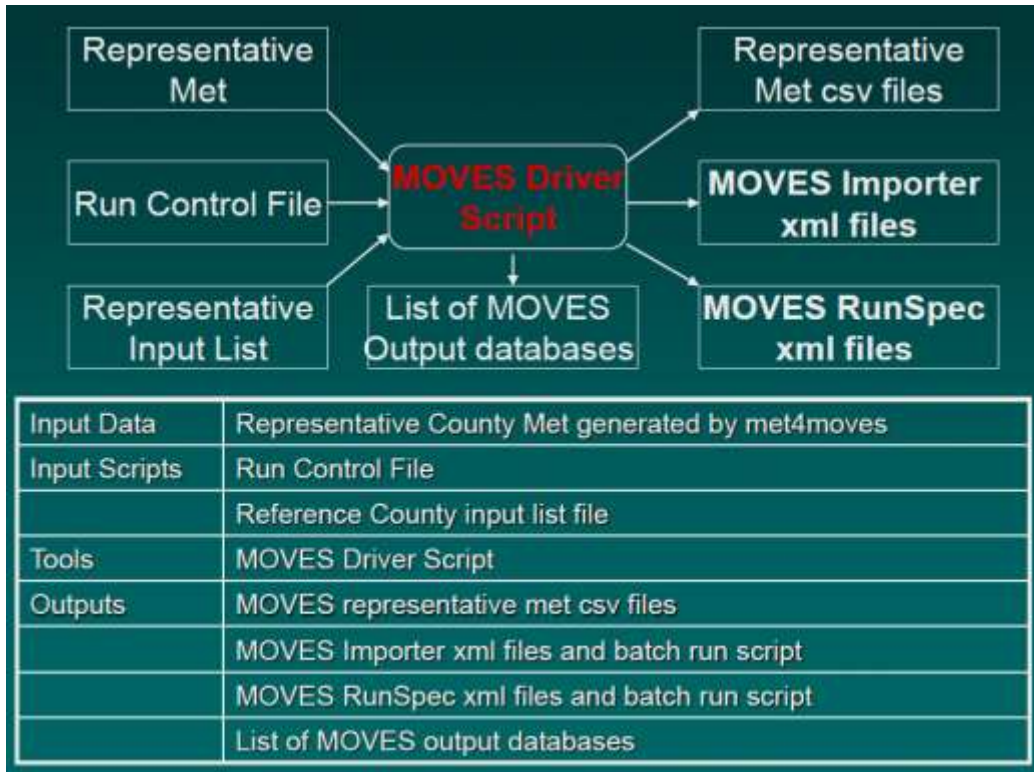

Figure 10. A flow diagram of MOVES run script input and output files
The MOVES driver script generates scripts and files for each representative county for MOVES lookup table runs. (1) It converts meteorological files from the output format of met4moves to MOVES-required comma separated value (csv) format; (2) it generates all required MOVES importer files on how to build county-level MySQL input databases; (3) it creates the MOVES RunSpec files to instruct each MOVES lookup table run; and (4) it generates batch run script files to build up MOVES input databases and to run MOVES lookup tables from the Windows command prompt. Figure 10 gives the flow diagram of MOVES driver script input and output files. The run control file and the representative list file are attached in the Appendix.